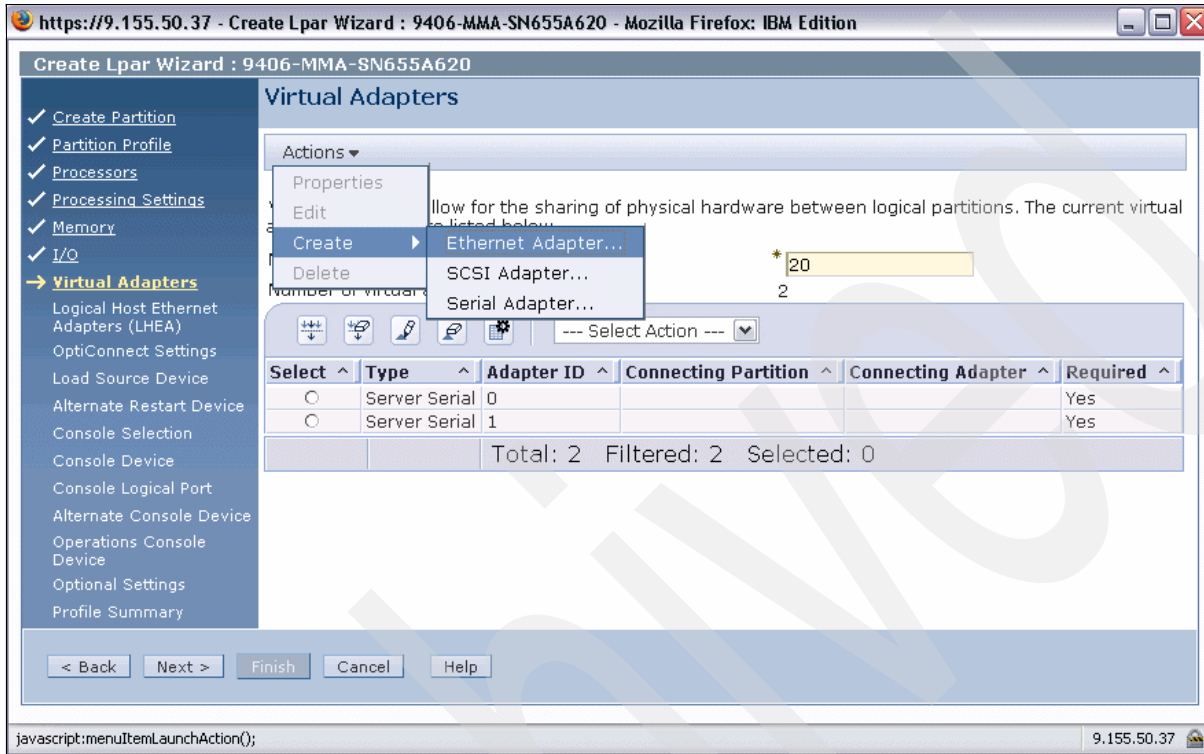

Figure 6-28 Create LPAR Virtual Adapters dialog
- Similar to the VIOS partition, we like to have a virtual Ethernet adapter on our IBM i client partition for inter-partition VLAN communication. To allow us to use the same virtual adapter IDs between VIOS and our IBM i client partition we first increase the maximum virtual adapters value to 20 and select **Actions** → **Create** → **Ethernet Adapter**, as shown in Figure 6-28.